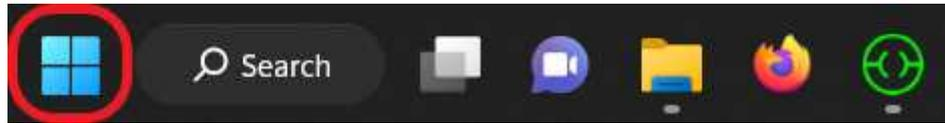

Figure 8: Windows® 11 ‘Start’ button
1. Click the 'Start' button in your 'Task Bar' – highlighted in Figure 8 below – to bring up the 'Start Menu.'